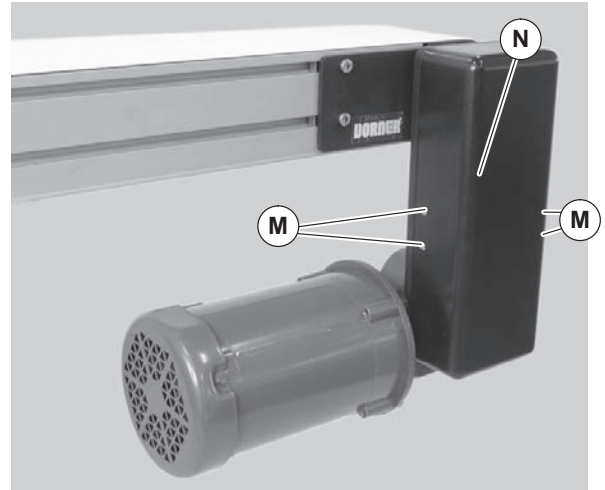

Figure 18
- a. Remove four (4) screws (Figure 18, item M) and cover (N).